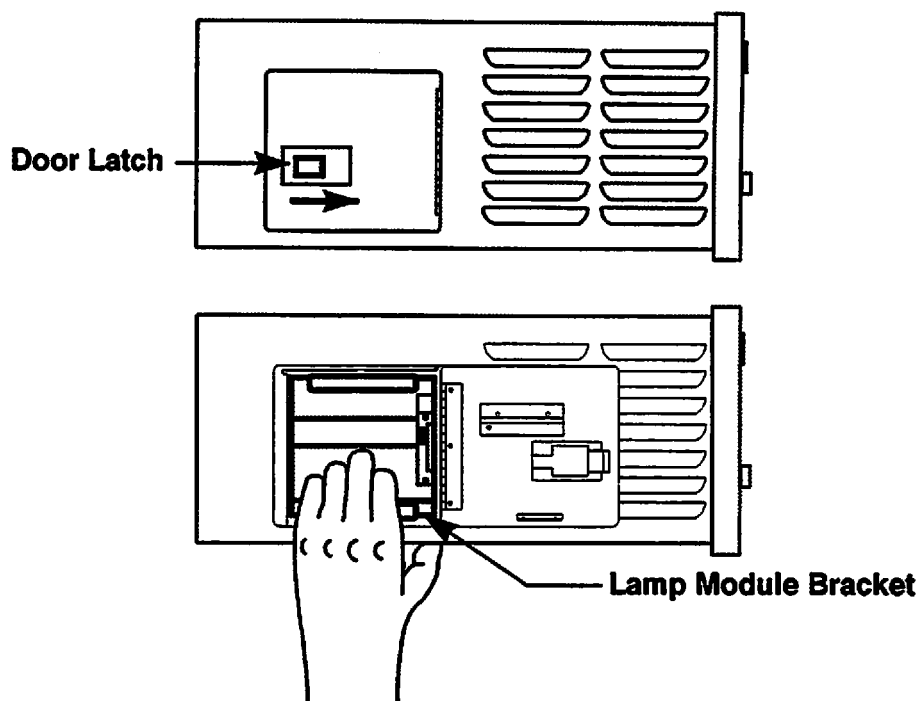

Figure 3-1 Removing the Lamp Module
1. Remove the lamp module from the light source unit. Access to the lamp module is achieved through the door on the left side of the chassis (figure 3-1).